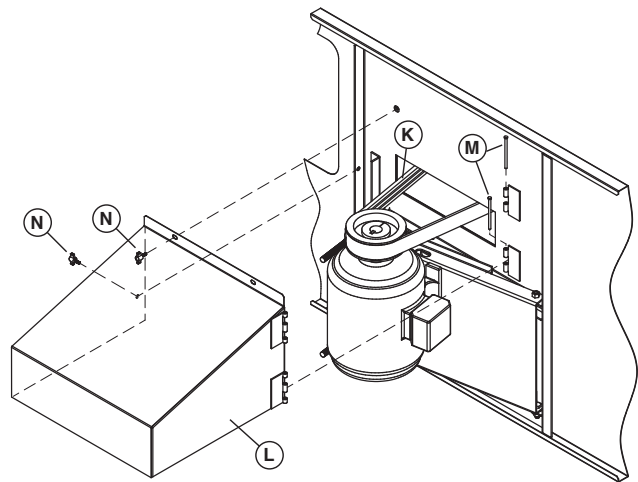

Figure 16 – Motor Guard and Powerband Belt Installation
7. Install Powerband belt **K** (Figure 16) around fan sheave and motor sheave. Tighten belt by adjusting nuts on "J" bolts. Do not over tighten the belts. The center of the belt should deflect approximately 3/4" (19 mm) with moderate hand pressure.
10. To install Motor Guard **L**, match up hinges and install hinge pins **M** (See Figure 16).
11. Close Motor Guard and install two (2) wing bolts **N**.